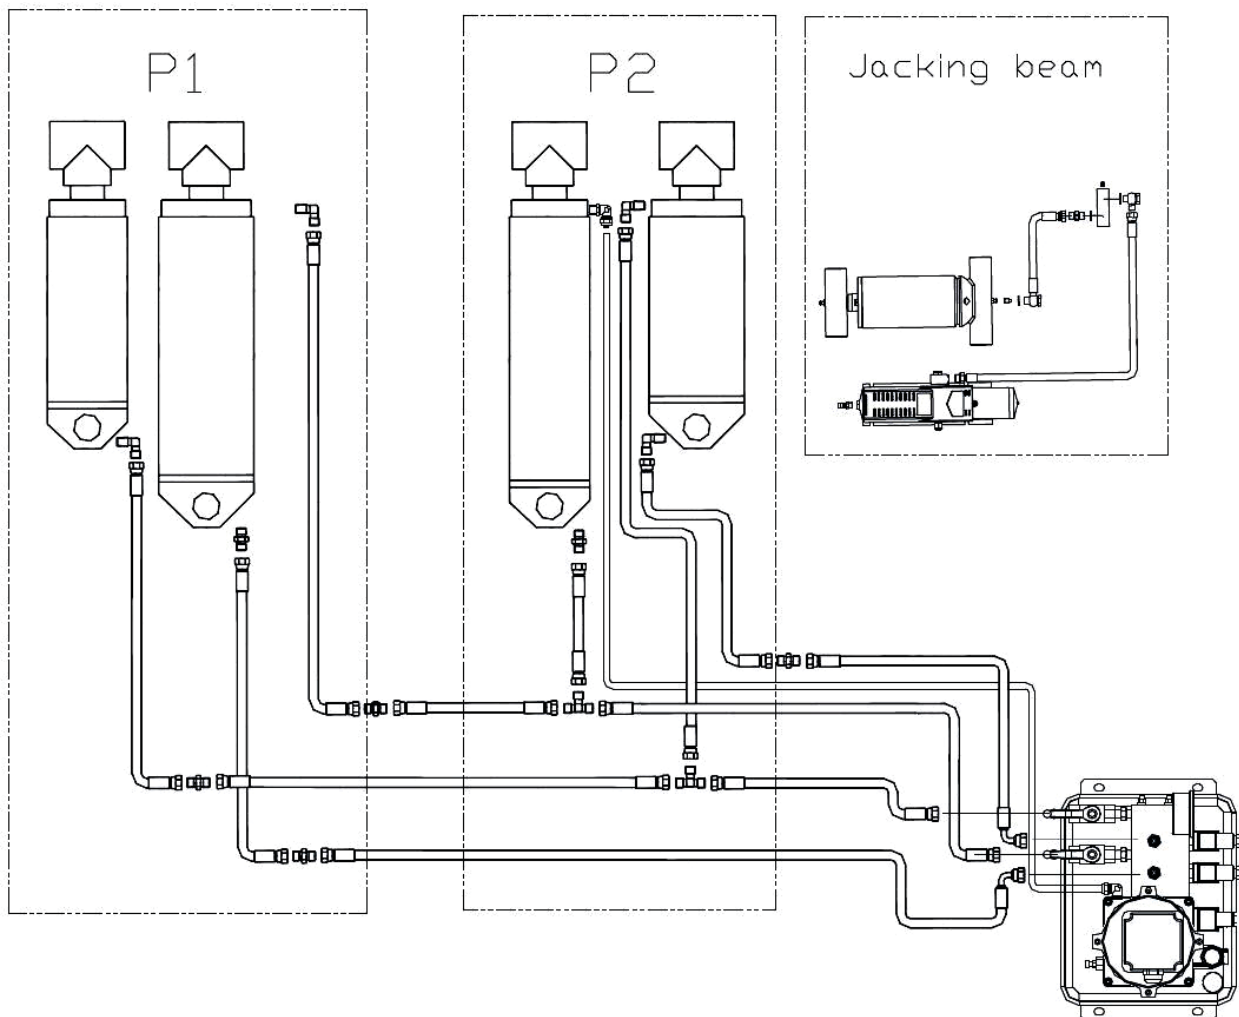

Figure 16 – Hydraulic Connections
- Following to the Figure 16 route hydraulic lines referring to the letters shown on them through the pipe in the prepared foundation;